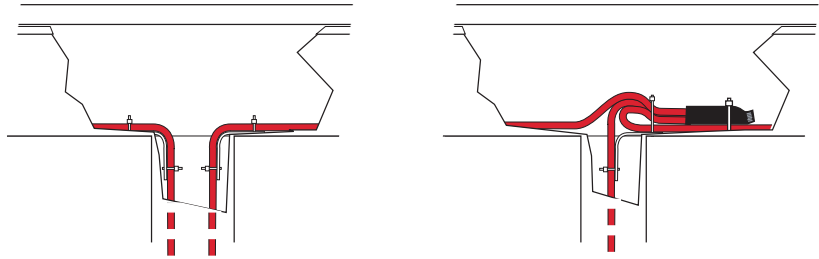
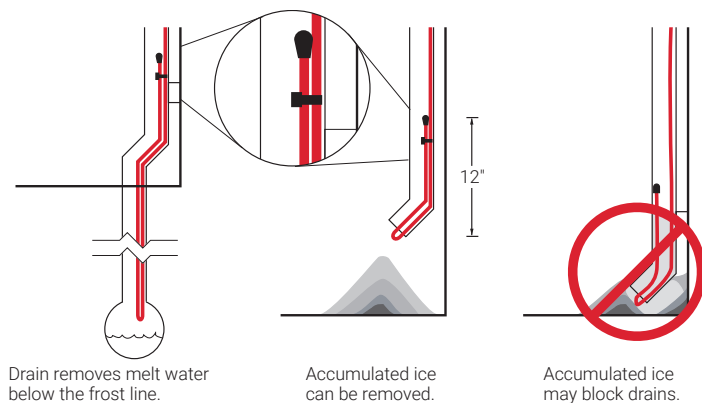

Fig. 16 Heating cable at top of downspout
Fig. 17 Heating cable at bottom of downspout
- External downspouts and scuppers must be treated carefully. A path must be provided for the valley/perimeter heating cable to the point of discharge (see Fig. 17 on page 15).
Ice may form in downspouts and prevent melt water from escaping from the roof. To maintain a continuous path for melt water to run off, run the heating cable inside the downspout to the end as shown in Fig. 16 and Fig. 17 below. Follow the appropriate attachment recommendations in “Step 6 Select attachment accessories and method” on page 21. Additional heating cable may be needed for the roof surface, gutters, and valleys.